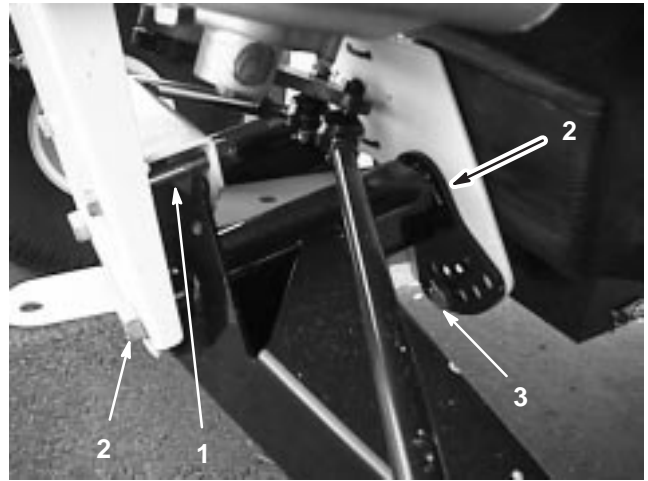

Figure 24
2. Remove the travel limiting bolt (Fig. 24).
3. Loosen the centering bolts in the front A-arm (Fig. 24).
4. Remove the ride height adjustment bolt (Fig. 24).
5. Rotate the front A-arm to the desired position (refer to the note below) and replace the ride height adjustment bolt (Fig. 24).
7. Replace the travel limiting bolt (Fig. 24).